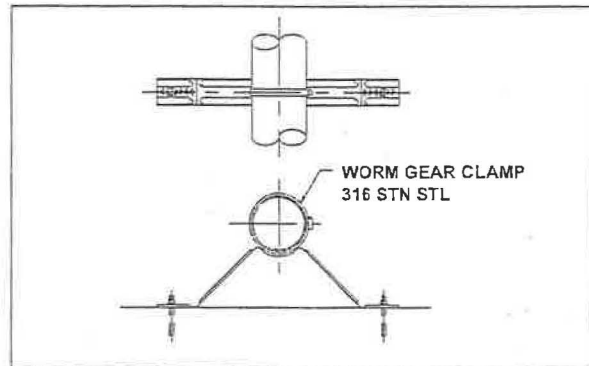
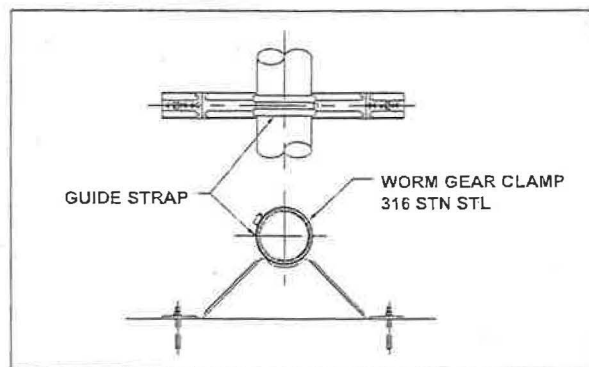

Figure 27A
Figure 27B
**A-Frame Supports** — (see Figures 27A and 27B.) A-frame supports are a formed stainless structure that could be a fixed support as shown in Figure 27A or a guide type non-gripping support as shown in Figure 27B.